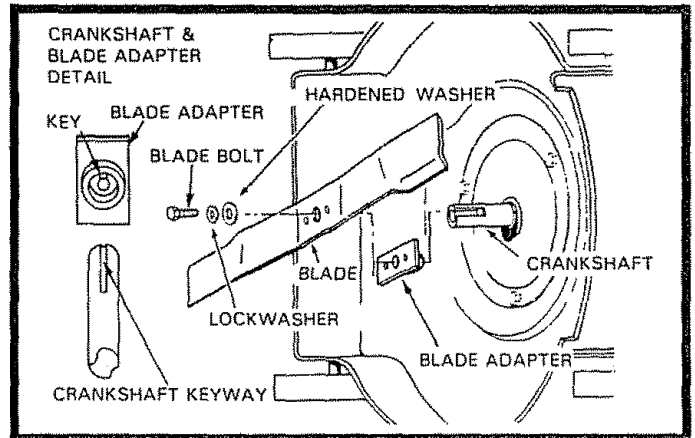

FIG. 9
- Remove Blade and attaching hardware (Bolt, Lockwasher and Hardened Washer) (See Fig. 9).
NOTE: Be sure the word TOP (stamped on the Blade) is toward the engine (See Fig. 9).
- Install the Blade Bolt with the Lockwasher and Hardened Washer into Blade Adapter and Crankshaft (See Fig. 9).